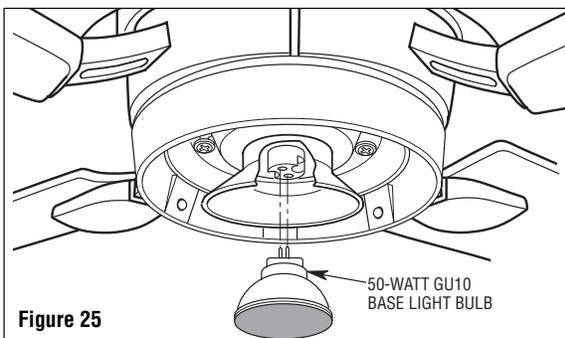

Figure 25
1. Install the 50-watt (maximum) GU10 base light bulb (supplied) into the light socket (Figure 25). Turn bulb clockwise to engage into the socket for secure fit.
**NOTE:** Do not touch the new 50-watt (maximum) MR-16, GU-10 bulb with your bare fingers; using a cloth or soft gloves to hold the bulb, gently push it into the socket and twist to lock the lamp into the socket (Figure 25). If there is any doubt that the bulb may have been contaminated by your touch, you should clean the bulb before its first use. Take a clean cloth dipped in a small amount of rubbing/isopropyl alcohol and gently brush off the bulb surface. If the lamp is hot, wait 30 minutes before cleaning.